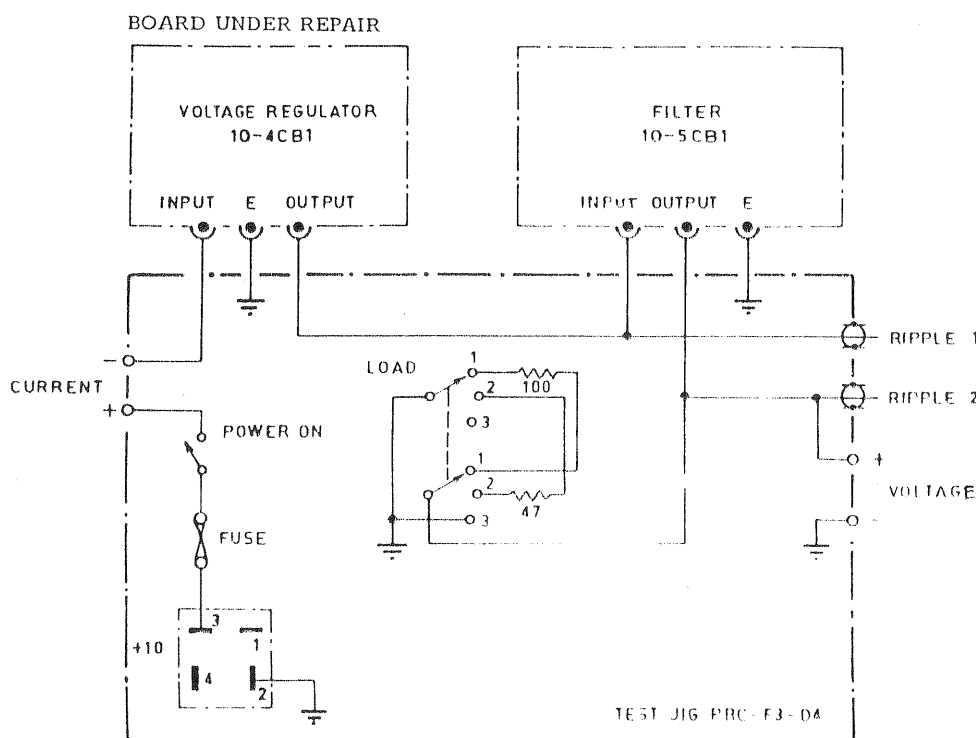

FIG 10 — TEST JIG PRC-F3-D4 (5 Volt Regulator)
- d. Test jig PRC-F3-D4 (See Fig 10).